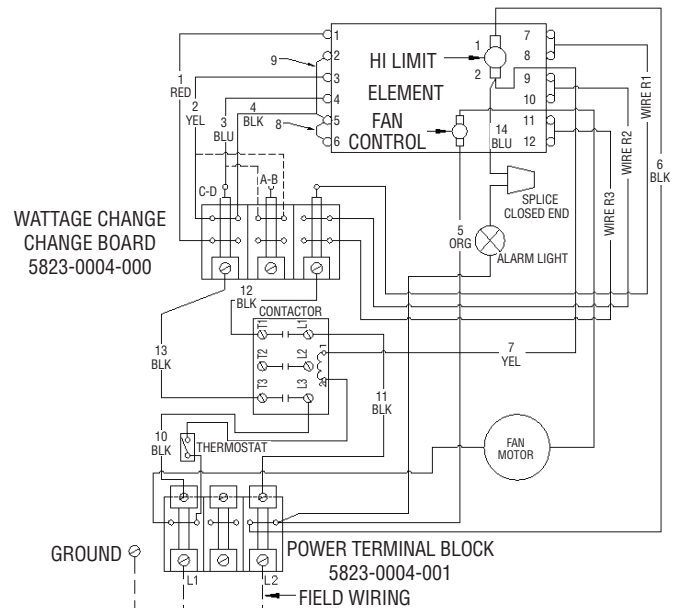

Figure 7 - Wiring Diagram
**NOTE:** To decrease the heat output of the heating unit, see Adjust the Heat Output, Table 2 and Wiring Diagram Figure 7.
Heat output can be increased or decreased by switching wires at the wattage change terminal board. The heater is factory wired to deliver a heat output of 17,065 BTU per hour. Should your particular application require less heat output, refer to Table 2 below and change the wires at the wattage change terminal board as shown in Wiring Diagram Figure 7.